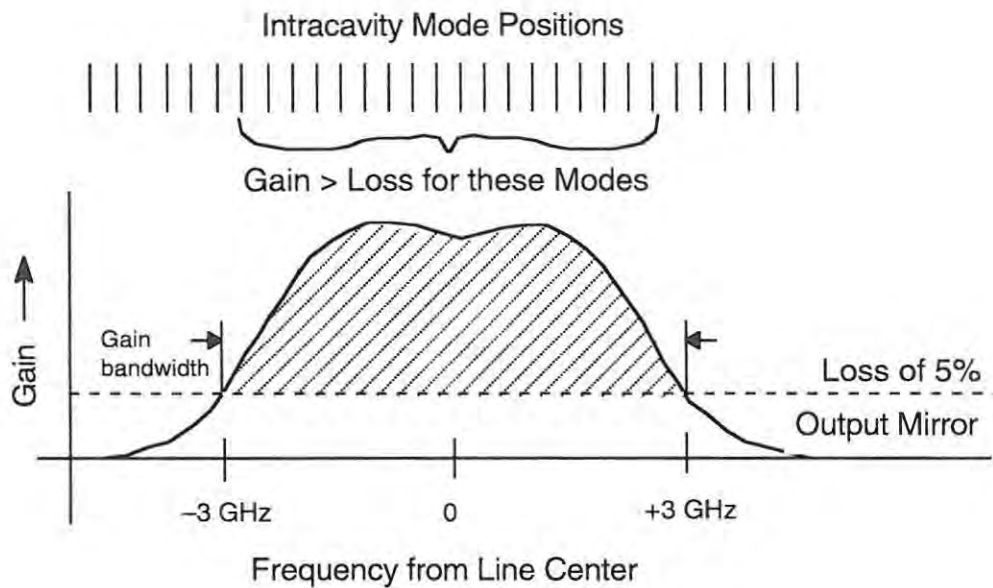

Figure 10-6. Gain Versus Frequency Curve
Figure 10-6 is a graph of gain versus frequency for a typical ion laser line. This curve, called the gain profile, derives its shape from both the intrinsic properties of the ions and the conditions inside the plasma tube. Measuring the spectral width of this gain profile, where the gain exceeds the losses, gives a quantity called the gain bandwidth, typically about 6 GHz. This is only about one part in 40,000 of the visible spectrum and may be regarded as monochromatic for many practical purposes.
1. Cavity losses suppress laser output on the extreme edges of the gain profile curve. The principal cavity loss, the transmission of the output coupler, is represented by the horizontal line in Figure 10-6. Laser action can only occur at those wavelengths where the gain exceeds the loss, as indicated by the shaded region in Figure 10-6.
In the Sabre ion laser, the cavity length is about six orders of magnitude greater than the laser light wavelength. A typical case, $L=2.00$ meters and $\lambda=488$ nm, gives a value for m of about 8×10^6 using the formula above. The difference in wavelength from one mode to the next is only 6×10^{-5} nm. This separation between modes, or mode spacing, is usually specified in frequency units. In the case of the Sabre ion laser, the mode spacing is 75 MHz, much less than the ion gain bandwidth of 6 to 8 GHz. Approximately 80 to 100 modes will satisfy the basic laser condition of gain greater than loss, such that the laser may emit light in all of these modes, as shown in Figure 10-6.